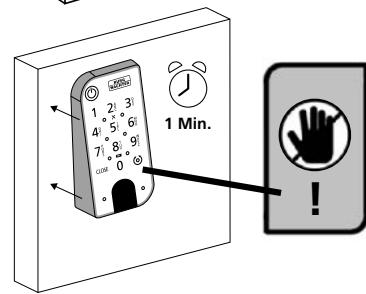

Fig. 9
- ④ Press the keypad against the wall for approx. one minute (Fig. 9).